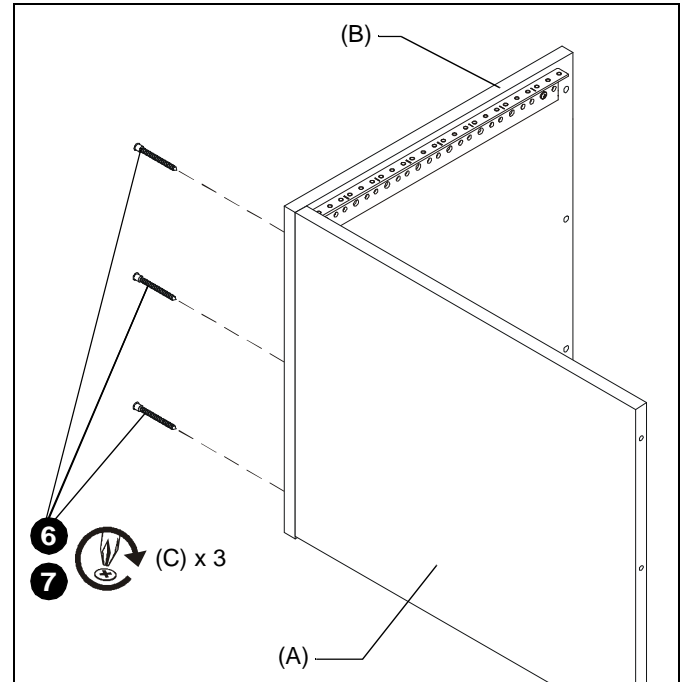

Figure 2
5. Place one top/bottom (A) piece standing up on its edge next to one of the side panel (B) pieces. (See Figure 2)
6. Install one 7mm x 70mm wood screw (C) into predrilled hole on side panel. Fasten the screw all the way into the panel but leave somewhat loose until all screws are installed. (See Figure 2)